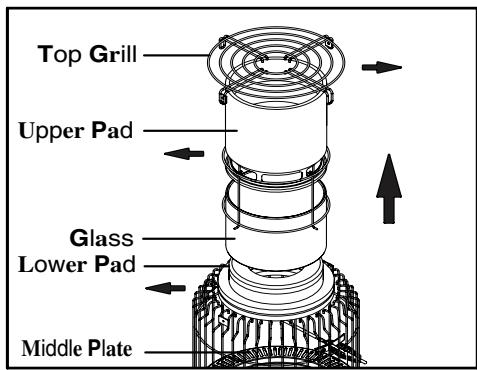

Fig. 3
- Remove Top Grill from Heater and Upper pad (Fig 3)
- Lift up Glass from Middle plate and remove Lower pad on Middle plate (Fig 3)